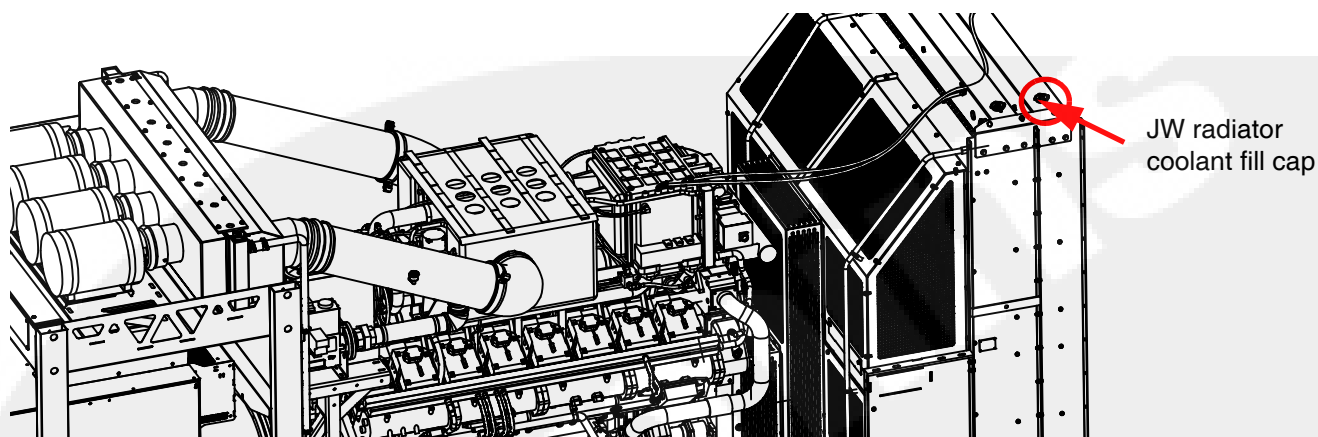

Figure 7-14 JW radiator coolant fill cap (GenSet right side)
4. As shown in Figure 7-14, twist the JW fill cap counter-clockwise and open the JW radiator fill port.